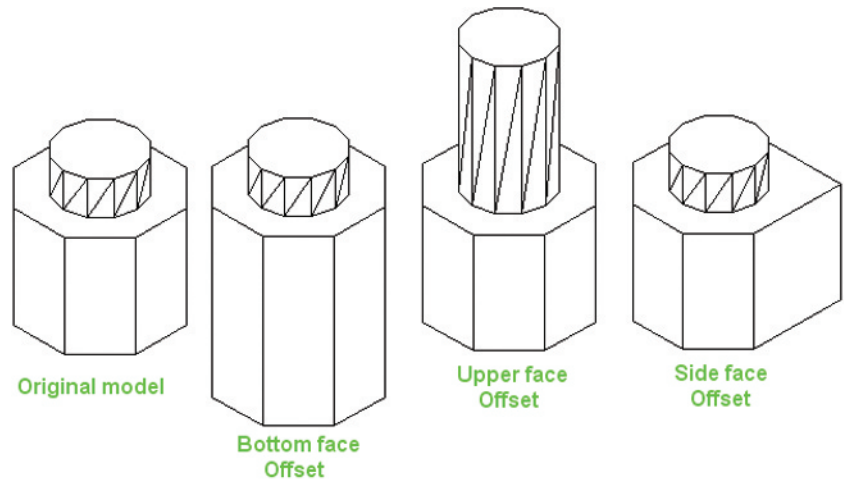

Fig. 18.11 Fourth example – **Offset faces tool**
Fourth example – Offset faces (Fig. 18.11)
1. Construct the 3D solid drawing shown in the left-hand drawing of Fig. 18.11 from a hexagonal extrusion and a cylinder which have been united using the **Union** tool.